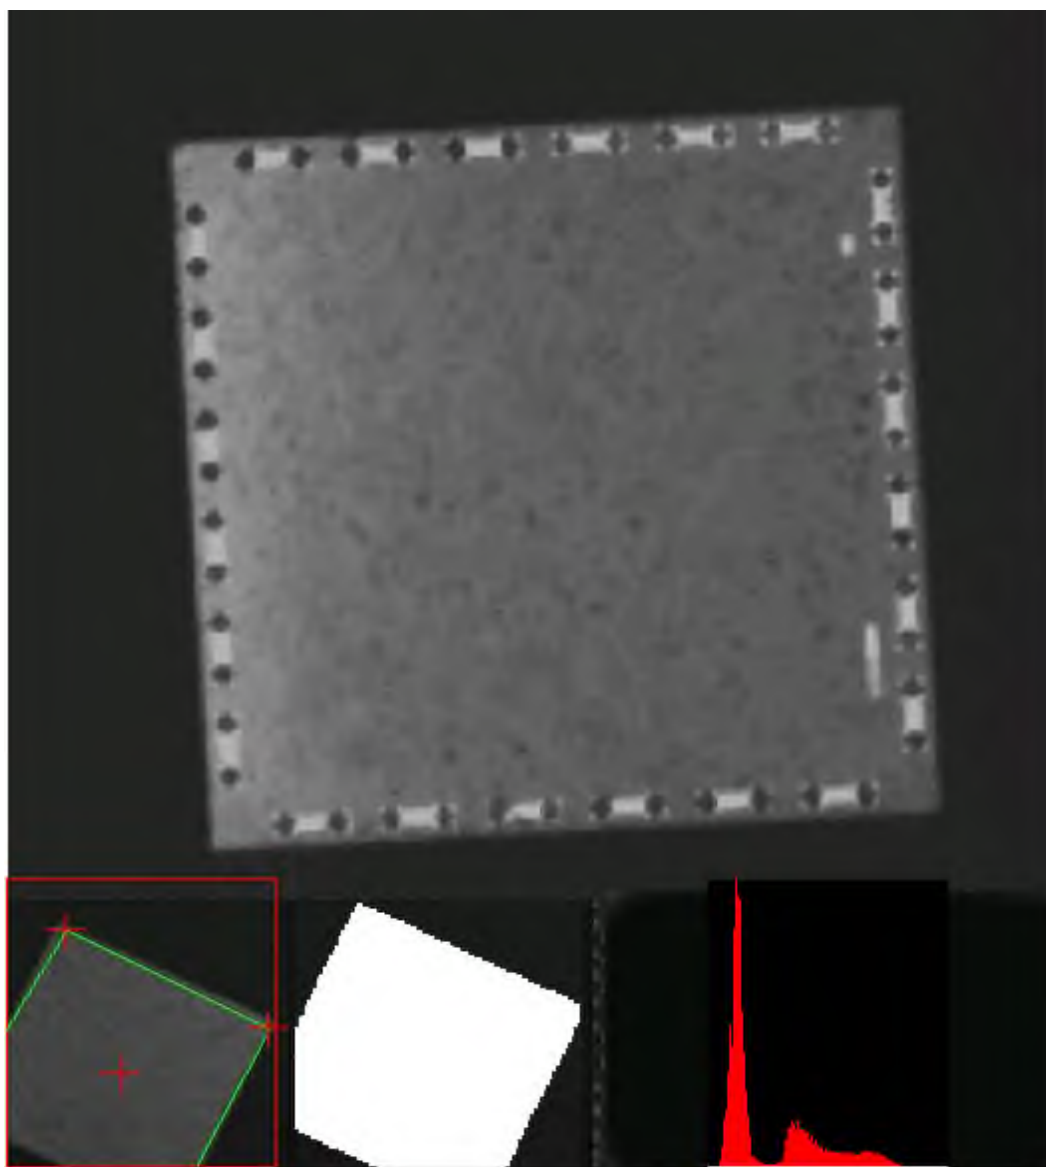

Figure 13. Images seen when the Detect Contrast algorithm is applied when and the view mode parameter has been set to 'Yes'
If the machine stops after a centering attempt you will see a composed image like the one shown in Figure 13. The top image is the one taken by the centering camera, in this case an HRC. In the lower part there are three images if the *Detect contrast* algorithm was chosen:
3. On the right an image histogram is drawn in red. Normally the *Detect contrast* method is chosen when two clear maxima are found in the histogram as in the one in Figure 13.